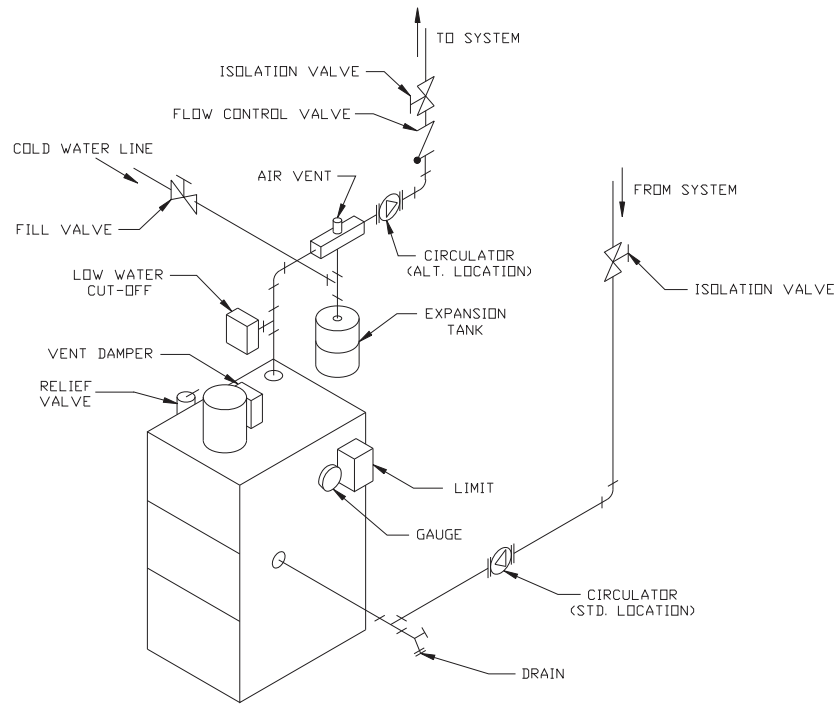

FIGURE 11: STANDARD BOILER PIPING
Figure 11 shows typical boiler system connections on a single zone system. Additional information on hydronic system design may be found in *Installation of Residential Hydronic Systems* (Pub. #200) published by the Hydronics Institute in Berkeley Heights, NJ. The components in this system and their purposes are as follows:
- 2) Circulator (Required) - Although the circulator is shipped on the boiler return, it can be installed on the boiler supply. If the circulator is moved to the supply, it should be positioned just downstream of the expansion tank as shown in Figure 11.